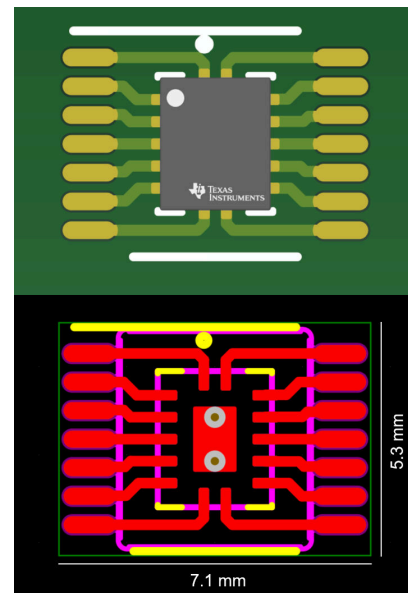

Figure 1. PW + BQA Dual Footprint
Figure 1 shows a dual footprint for a TSSOP (PW) 14 pin package and a WQFN (BQA) 14 pin package.